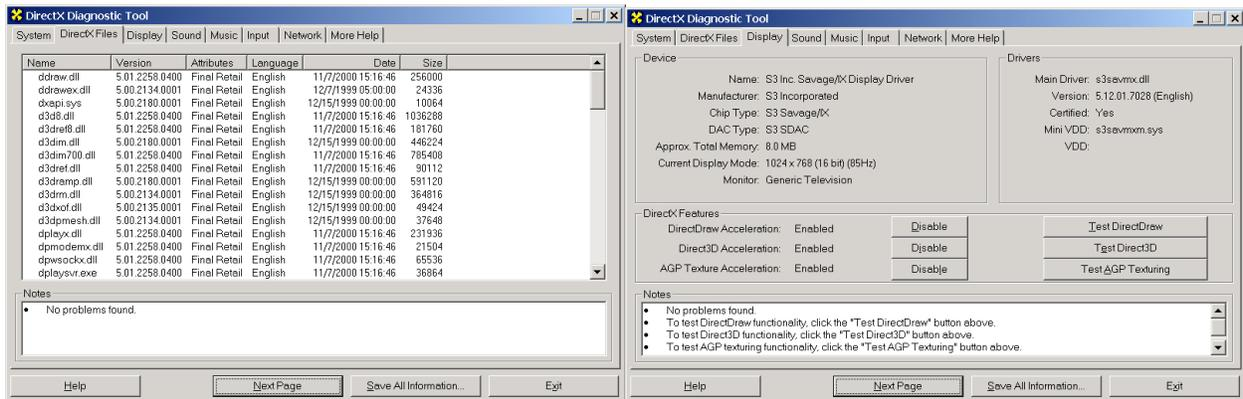

Figure 30: DirectX 6 DXDiag
2. In the Open field type DXDIAG and click on the OK button. See figure 30.